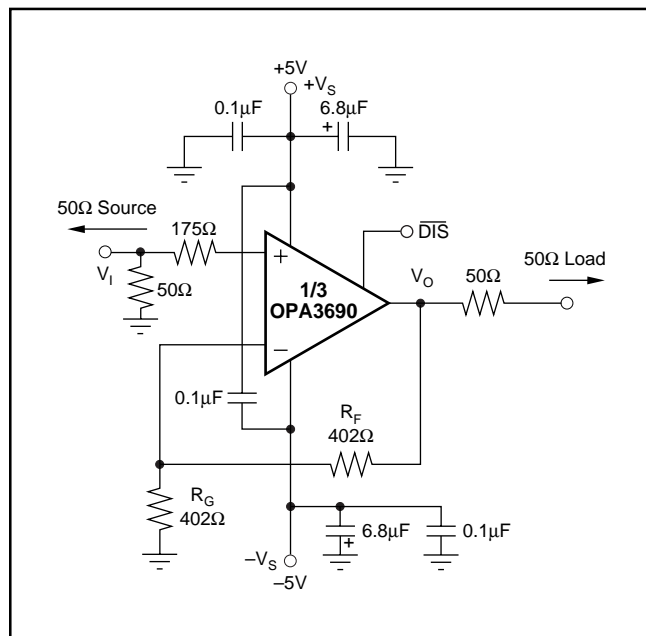
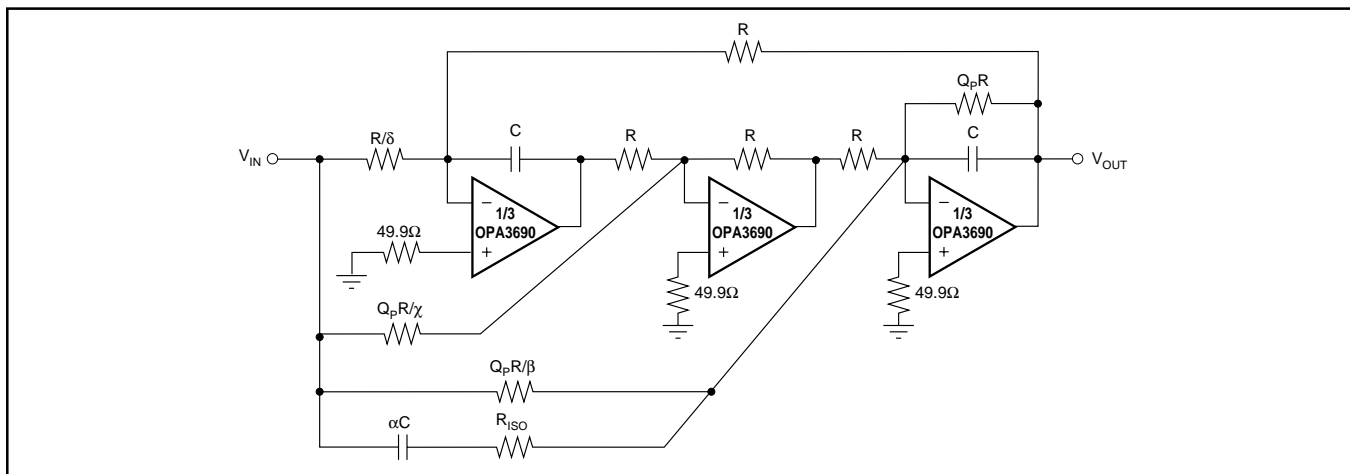
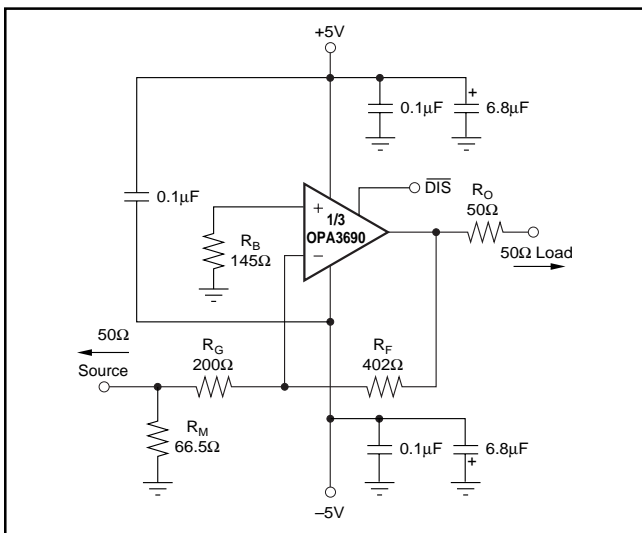

FIGURE 1. DC-Coupled, $G = +2$, Bipolar Supply, Specification and Test Circuit.
FIGURE 11. State Variable Filter.
FIGURE 12. Gain of –2 Example Circuit.
At $T_A = +25^\circ C$, $G = +2$, $R_F = 402\Omega$, and $R_L = 100\Omega$ (see Figure 1 for AC performance only), unless otherwise noted.
Figure 1 shows the DC-coupled, gain of +2, dual power-supply circuit configuration used as the basis of the $\pm 5V$ Electrical and Typical Characteristics. For test purposes, the input impedance is set to 50Ω with a resistor to ground and the output impedance is set to 50Ω with a series output resistor. Voltage swings reported in the Electrical Characteristics are taken directly at the input and output pins, while output powers (dBm) are at the matched 50Ω load. For the circuit of Figure 1, the total effective load will be $100\Omega \parallel 804\Omega$. The disable control line is typically left open to ensure normal amplifier operation. Two optional components are included in Figure 1. An additional resistor (100Ω) is included in series with the noninverting input. Combined with the 25Ω DC source resistance looking back towards the signal generator, this gives an input bias current cancelling resistance that
Figure 11 shows a state variable filter using the OPA3690. This active filter is quite useful for high Q filter responses,
A good rule of thumb is to target the parallel combination of R_F and R_G (see Figure 1) to be less than approximately 125Ω. The combined impedance ($R_F \parallel R_G$) interacts with the inverting input capacitance, placing an additional pole in the feedback network and thus, a zero in the forward response. Assuming a 3pF total parasitic on the inverting node, holding $R_F \parallel R_G < 125\Omega$ will keep this pole above 400MHz. By itself, this constraint implies that the feedback resistor R_F can increase to several kΩ at high gains. This is acceptable as long as the pole formed by R_F and any parasitic capacitance appearing in parallel with it is kept out of the frequency range of interest.
Voltage-feedback op amps exhibit decreasing closed-loop bandwidth as the signal gain is increased. In theory, this relationship is described by the Gain Bandwidth Product (GBP) shown in the specifications. Ideally, dividing GBP by the noninverting signal gain (also called the Noise Gain, or NG) will predict the closed-loop bandwidth. In practice, this only holds true when the phase margin approaches 90°, as it does in high-gain configurations. At low gains (increased feedback factors), most amplifiers will exhibit a more complex response with lower phase margin. The OPA3690 is compensated to give a slightly peaked response in a noninverting gain of 2 see (Figure 1). This results in a typical gain of +2 bandwidth of 220MHz, far exceeding that predicted by dividing the 300MHz GBP by 2. Increasing the gain will cause the phase margin to approach 90° and the bandwidth to more closely approach the predicted value of (GBP/NG). At a gain of +10, the 30MHz bandwidth shown in the Typical Specifications agrees with that predicted using the simple formula and the typical GBP of 300MHz.
Frequency response in a gain of +2 may be modified to achieve exceptional flatness simply by increasing the noise gain to 2.5. One way to do this, without affecting the +2 signal gain, is to add a 453Ω resistor across the two inputs in the circuit of Figure 1. A similar technique may be used to reduce
Since the OPA3690 is a general-purpose, wideband, voltage-feedback op amp, all of the familiar op amp application circuits are available to the designer. Inverting operation is one of the more common requirements and offers several performance benefits. Figure 12 shows a typical inverting configuration where the I/O impedances and signal gain from Figure 1 are retained in an inverting circuit configuration.
100Ω feedback resistor in parallel with the external load. In general, the feedback resistor should be limited to the 100Ω to 1.5kΩ range. In this case, it is preferable to increase both the R_F and R_G values, see Figure 12, and then achieve the input matching impedance with a third resistor (R_M) to ground. The total input impedance becomes the parallel combination of R_G and R_M .
The second major consideration, touched on in the previous paragraph, is that the signal source impedance becomes part of the noise gain equation and hence influences the bandwidth. For the example in Figure 12, the R_M value combines in parallel with the external 50Ω source impedance, yielding an effective driving impedance of $50\Omega \parallel 66.5\Omega = 28.5\Omega$. This impedance is added in series with R_G for calculating the noise gain (NG). The resultant NG is 2.76 for Figure 11, as opposed to only 2 if R_M could be eliminated, as discussed above. The bandwidth will therefore be slightly lower for the gain of –2 circuit of Figure 12 than for the gain of +2 circuit of Figure 1.
The third important consideration in inverting amplifier design is setting the bias current cancellation resistor on the noninverting input (R_B). If this resistor is set equal to the total DC resistance looking out of the inverting node, the output DC error, due to the input bias currents, will be reduced to (Input Offset Current) • R_F . If the 50Ω source impedance is DC-coupled in Figure 12, the total resistance to ground on the inverting input will be 228Ω. Combining this in parallel with the feedback resistor gives the $R_B = 145\Omega$ used in this example. To reduce the additional high-frequency noise introduced by this resistor, it is sometimes bypassed with a capacitor. As long as $R_B < 350\Omega$, the capacitor is not required since the total noise contribution of all other terms will be less than that of the op amp's input noise voltage. As a minimum, the OPA3690 requires an R_B value of 50Ω to damp out parasitic-induced peaking—a direct short to ground on the noninverting input runs the risk of a very high-frequency instability in the input stage.
The distortion plots show which changes in operation will improve distortion. Increasing the load impedance improves distortion directly. Remember that the total load includes the feedback network; in the noninverting configuration (see Figure 1) this is sum of $R_F + R_G$, while in the inverting configuration (see Figure 11), it is just R_F . Also, providing an additional supply decoupling capacitor (0.1μF) between the supply pins (for bipolar operation) improves the 2nd-order distortion slightly (3dB to 6dB).
Evaluating these two equations for the OPA3690 circuit and component values shown in Figure 1 will give a total output spot noise voltage of 12.3nV/√Hz and a total equivalent input spot noise voltage of 6.1nV/√Hz. This is including the noise added by the bias current cancellation resistor (100Ω) on the noninverting input. This total input-referred spot noise voltage is only slightly higher than the 5.5nV/√Hz specification for the op amp voltage noise alone. This will be the case as long as the impedances appearing at each op amp input are limited to the previously recommend maximum value of 300Ω. Keeping both $(R_F \parallel R_G)$ and the noninverting input source impedance less than 300Ω will satisfy both noise and frequency response flatness considerations. Since the resistor-induced noise is relatively negligible, additional capacitive decoupling across the bias current cancellation resistor (R_B) for the inverting op amp configuration of Figure 12 is not required.